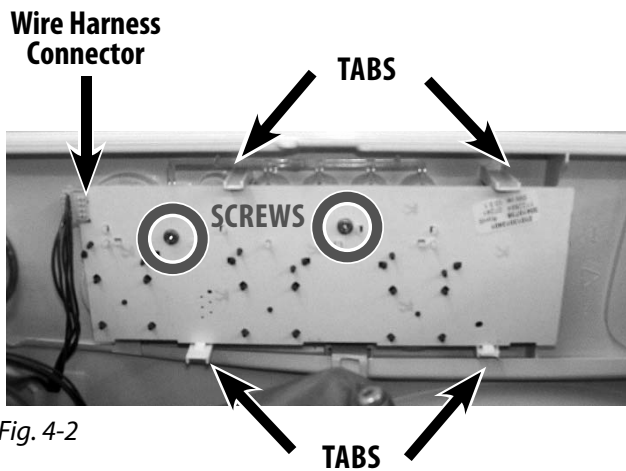
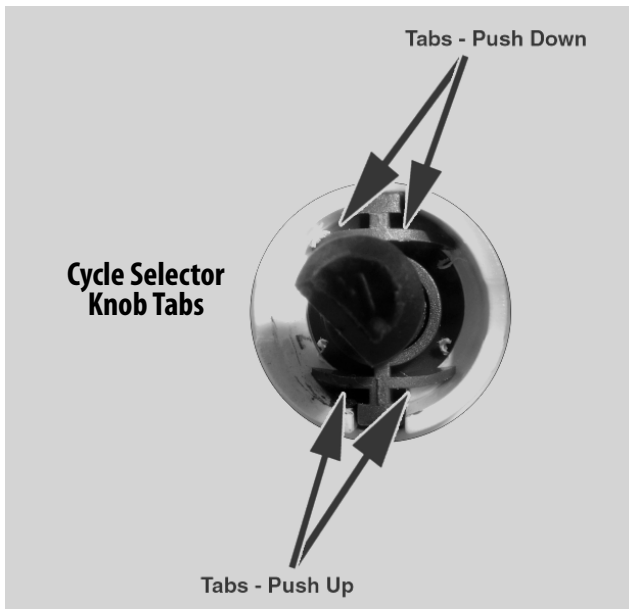

Fig. 4-2
Fig. 4-3
1. Remove the wire connector from the panel board (Fig. 4-2).
2. Remove the two Phillips screws that secure the panel board to the control panel (Fig. 4-2).
3. Gently lift up on tabs on the back of the control panel board (Fig. 4-2) and push in the tabs on the selector knob shafts (Fig. 4-3) and pull out panel board using care not to break the tabs.